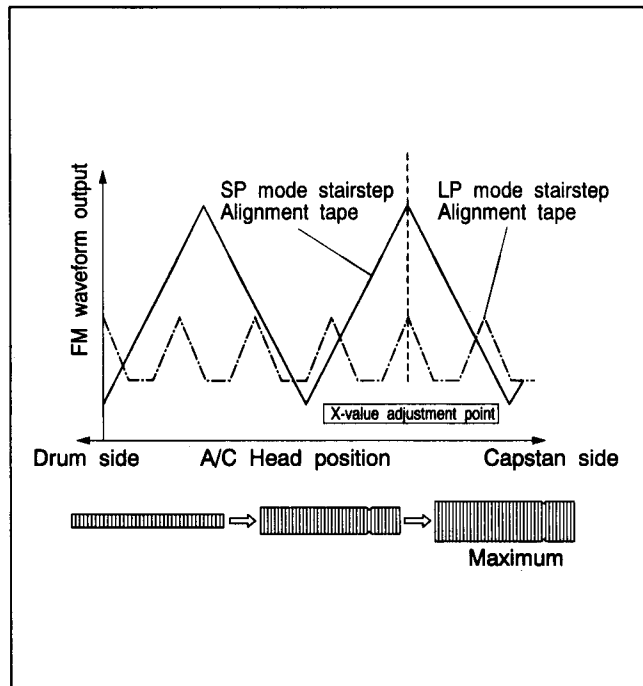

Fig. 2-7-7
- (5) Turn the tool first to position the A/C head fully toward the capstan. Then gradually return it toward the drum and stop at the position of maximum FM waveform output level as shown in Fig.2-7-7.
- (6) Tighten screw (5). Remove the tool and tighten screw (4).
- (7) Eject the SP alignment tape and then re-insert the LP alignment tape.
- (8) Playback the LP stairstep portion of the alignment tape then press the CH "▲" or "▼" button once during playback mode.
- (9) Set the neutral manual tracking position by simultaneously pressing the CH "▲" and "▼" buttons.
- (10) Confirm maximum playback FM waveform output level as shown in Fig.2-7-7.
- (11) If not maximum, slightly loosen the screws (4) and (5). Use the tool and adjust the head position for the nearest maximum point. Then tighten screws (4) and (5).